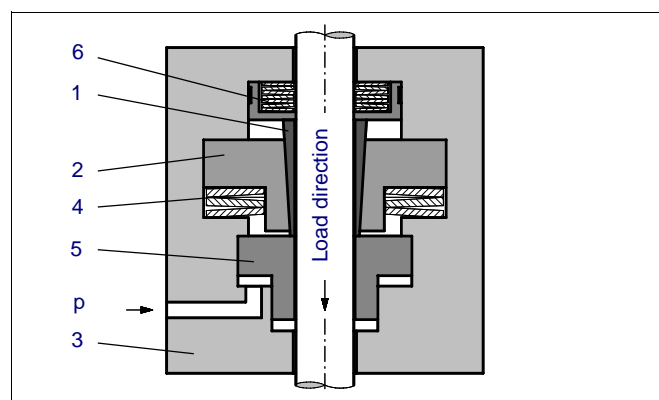

Fig. 1: Structure, clamping released
As shown in Fig. 1, the clamping system consists of a conical clamping sleeve (1) with an outer cone moving within a clamping housing (3) against the force of the disc springs (4). In released condition, the annular piston (5) keeps the clamping sleeve pushed against the set of disc springs (6) by pneumatic pressure, so that the shaft can move freely in both directions.
Acting force does not exceed the nominal load M , the movement of the rod is very small, typically under 0.5 mm. The position of the clamping ring remains in its original position, because the spring force V (4) is somewhat larger than M (see Fig. 1).